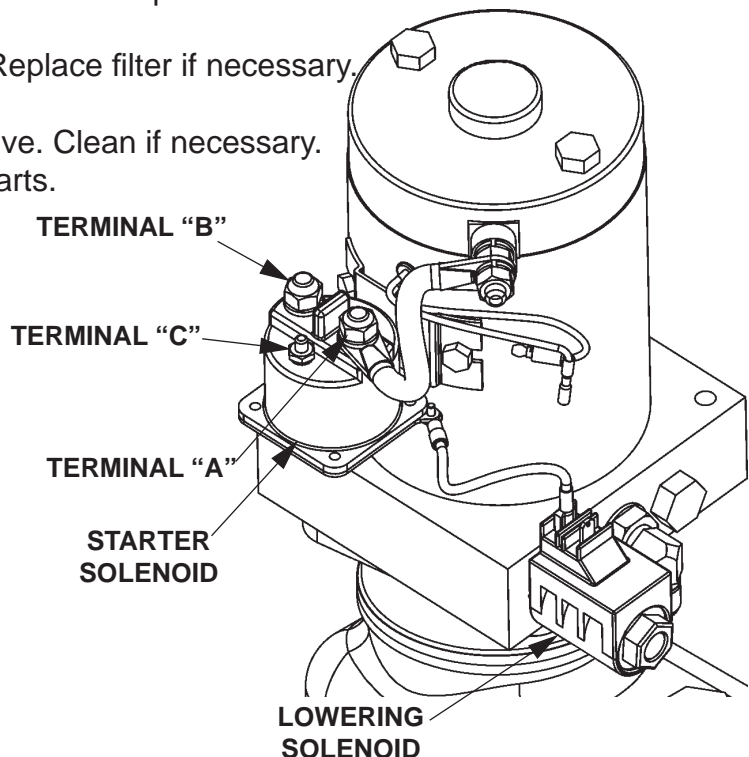

FIG. 73-1
1. Use voltmeter to verify that power is being supplied to Solenoid Terminal "A" (FIG. 73-1.) Recharge the battery if less than 12.6 volts.
3. Touch a jumper wire to terminals "B" & "C" (FIG. 73-1). If motor runs check Switch, switch connections, and White wire. Check and correct wiring connections or replace the Switch.
4. Touch heavy jumper cables to terminals "A" & "B" (FIG. 73-1).